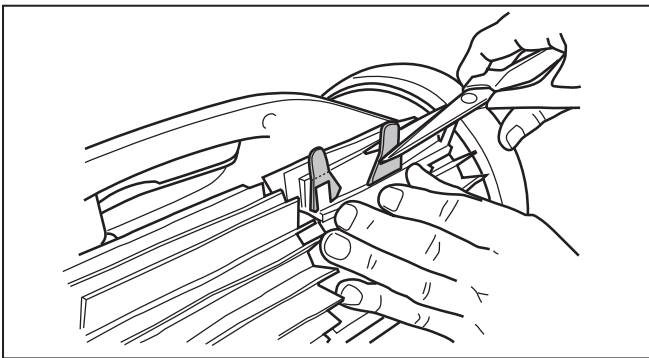

Figure 28. Stand Cleaner on its Side
5. Use scissors to cut the tabs at the guides, as shown in Figure 28.